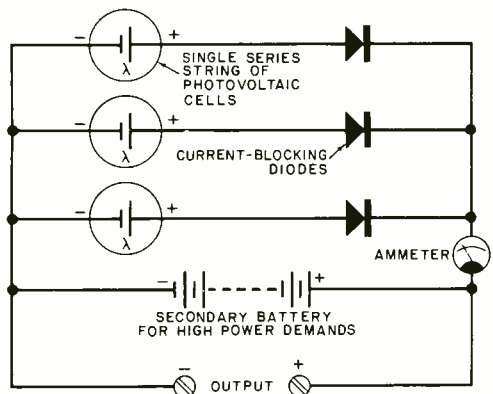

Fig. 5. Solar cells in series-parallel array.
**Power Generators.** Photovoltaic cells are used primarily as sources of dc power. An excellent application is in the generation of power for emergencies. As shown in Fig. 5, silicon or selenium cells in series can furnish charging currents to a secondary battery, with current-blocking diodes to protect the cells from reverse current. The ammeter (optional) indicates the total amount of charge.